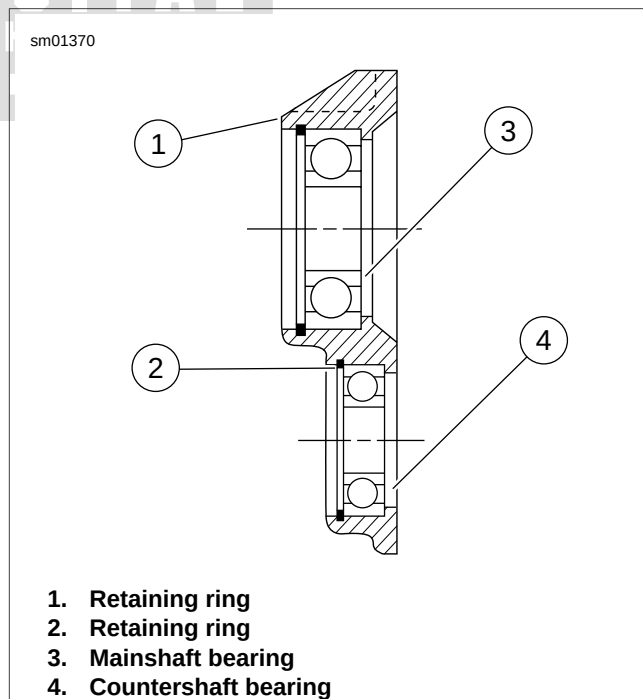

Figure 5-93. Ball Bearing Assembly
5. See Figure 5-93. If bearing replacement is required, remove retaining rings (1, 2) using SNAP-ON SNAP RING PLIERS (Part No. PR-36). Press out bearings (3, 4) from the inside of the crankcase.